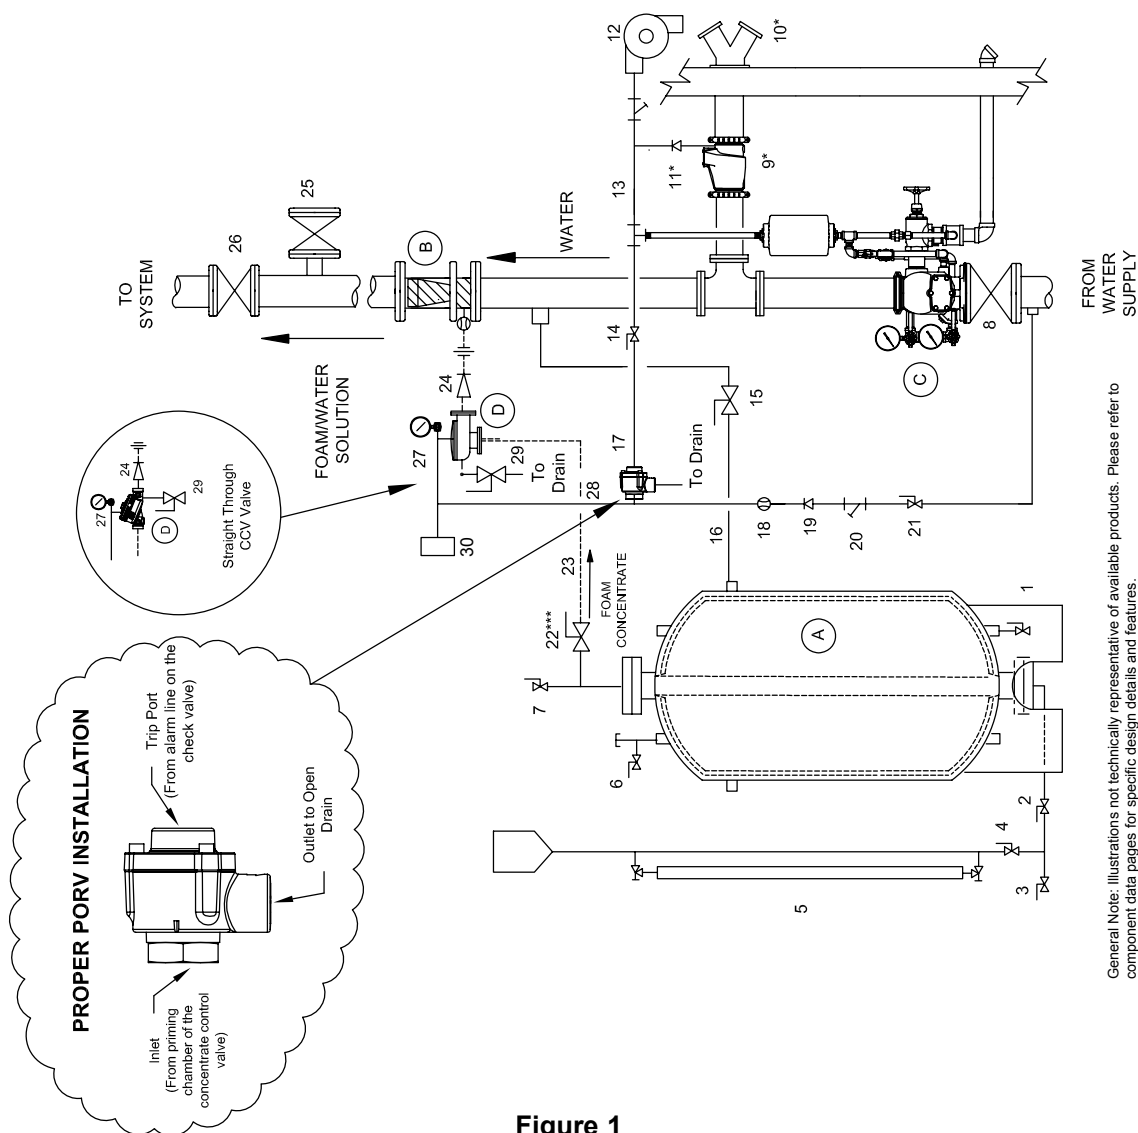

Figure 1
- F. The suggested location for a water flow switch, should one be required, is between the outlet of the alarm check valve (C) and the inlet to the ratio controller.
- G. Figure 1 is a general schematic of the required piping arrangement. Refer to the appropriate technical data page for specific information regarding the valve, tank, and related trim and devices.
- I. A strainer is not required in the foam concentrate discharge piping (23) of bladder tank systems per NFPA Standards.
- J. The Halar® Coated Deluge CCV (D) requires a 1/2" priming line (28) with CCV priming connection package. This package includes PORV (17), restricted orifice (18), check valve (19), strainer (20) and ball valve (21). Auxiliary drain valve (29) and gauge with 3-way valve (27) are included in the CCV Trim kit along with the plugs required for all other unused connections. Refer to the Viking website or data page 61 to find the correct trim kit part number for the corresponding size of Halar® Coated Deluge CCV (D).